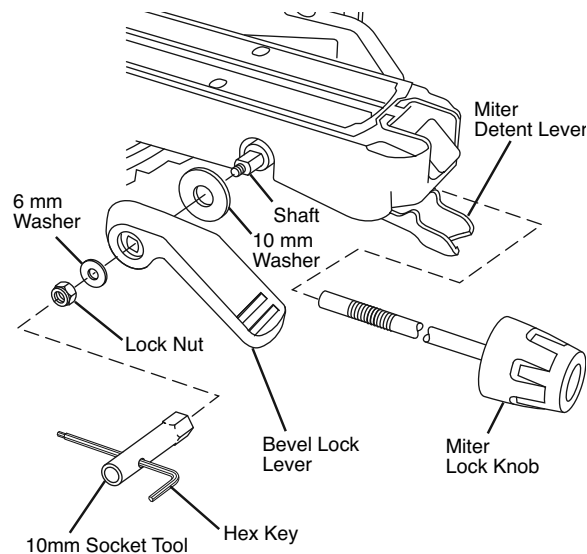

Figure 1
2. Slide the bevel lock lever over the shaft, aligning the flats with the shaft to the flats on the lever's mounting hole. The lever should be horizontal with the handle to the front (see Figure 1).
1. Look under the turntable's front arm above the lock lever and locate the 10mm hole (see Figure 1).